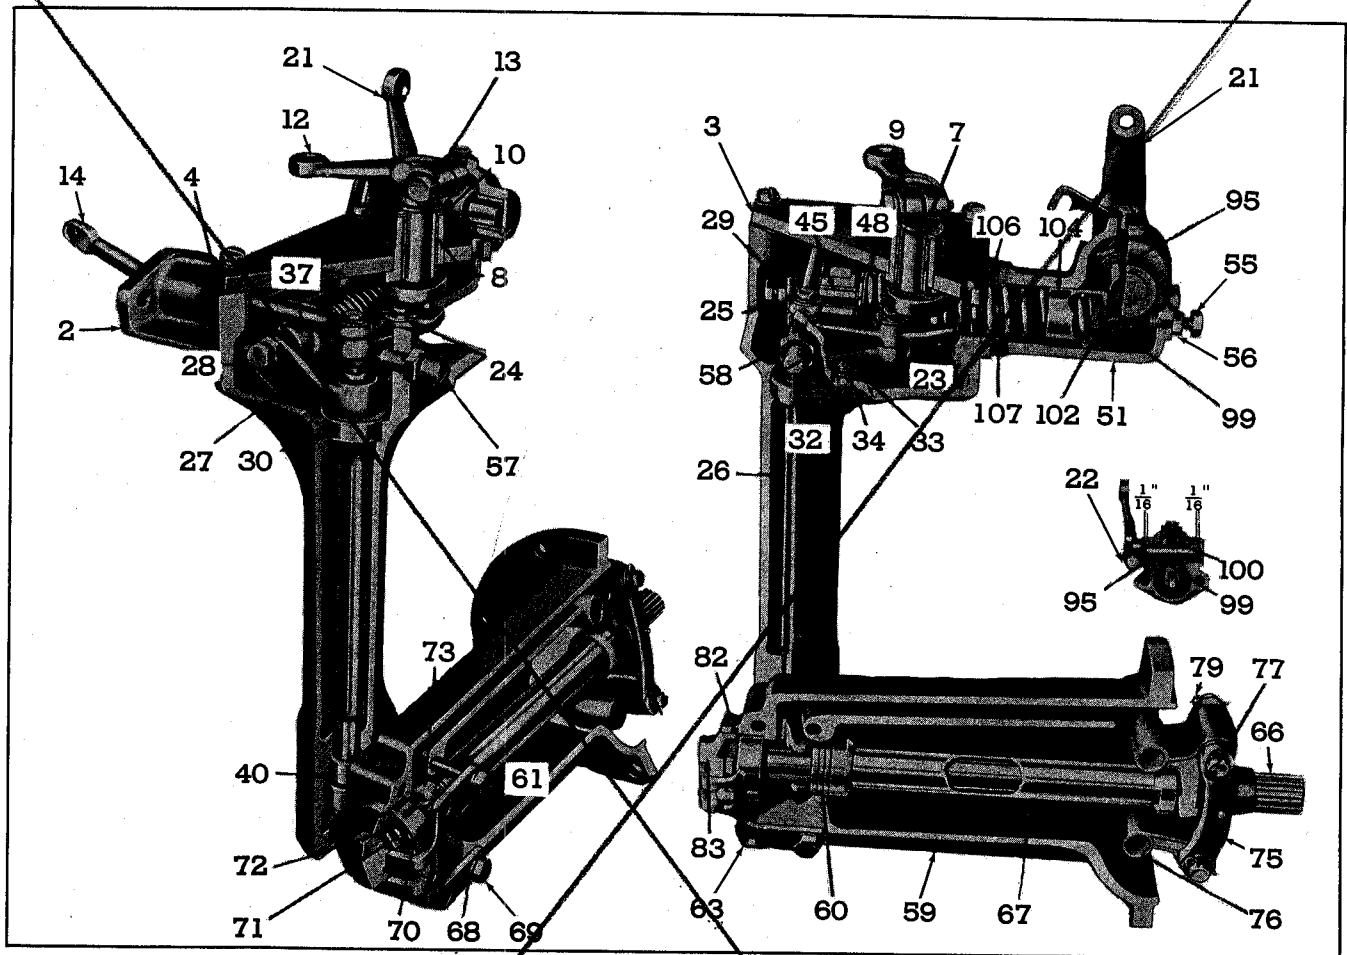

Fig. 14—Typical Variable Speed Governor Assembly.
The variable speed mechanical governor illustrated in Fig. 14 is a single weight type with one governor spring and performs three functions:
Two manual controls are provided on the variable speed governor: a governor control lever (12), Fig. 14
Adjustment of the maximum no-load speed is accomplished by varying the tension on the variable speed spring by the installation or removal of stops (106) and (107), Fig. 14, and shims (102) as required.